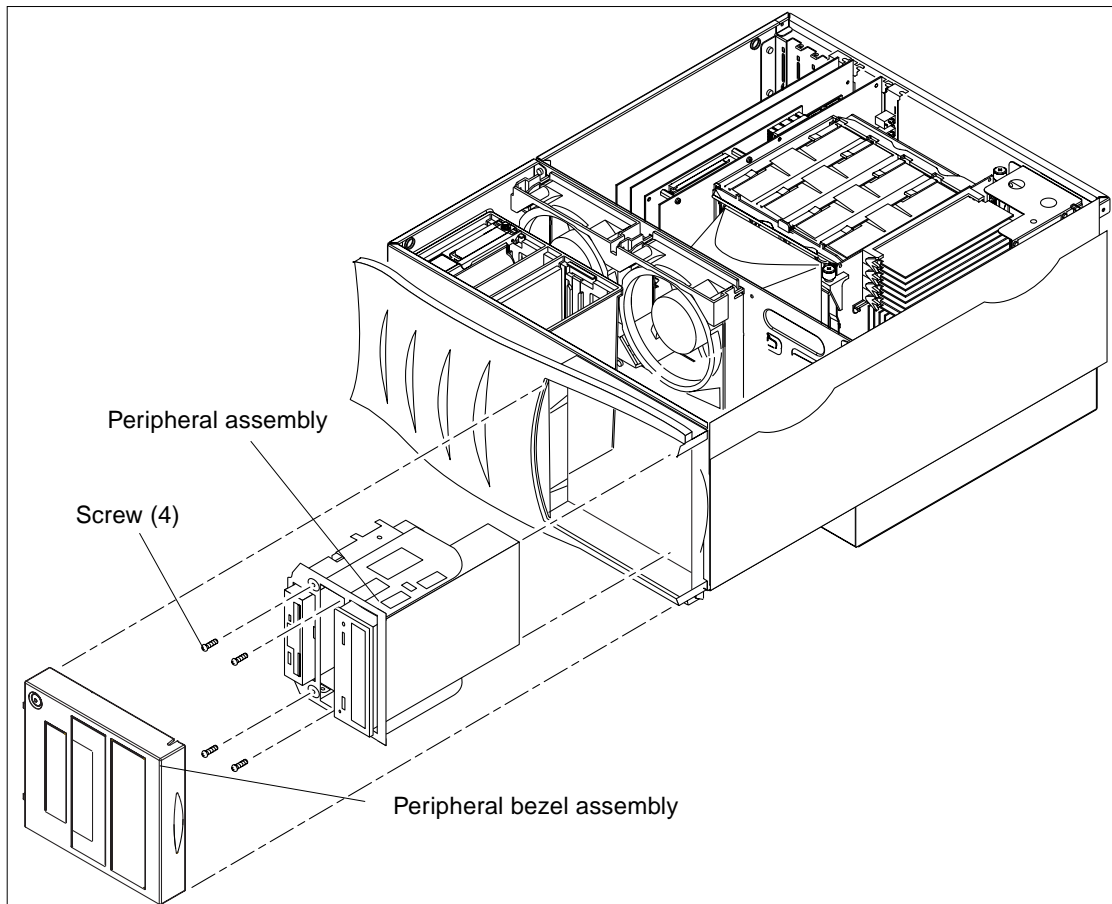
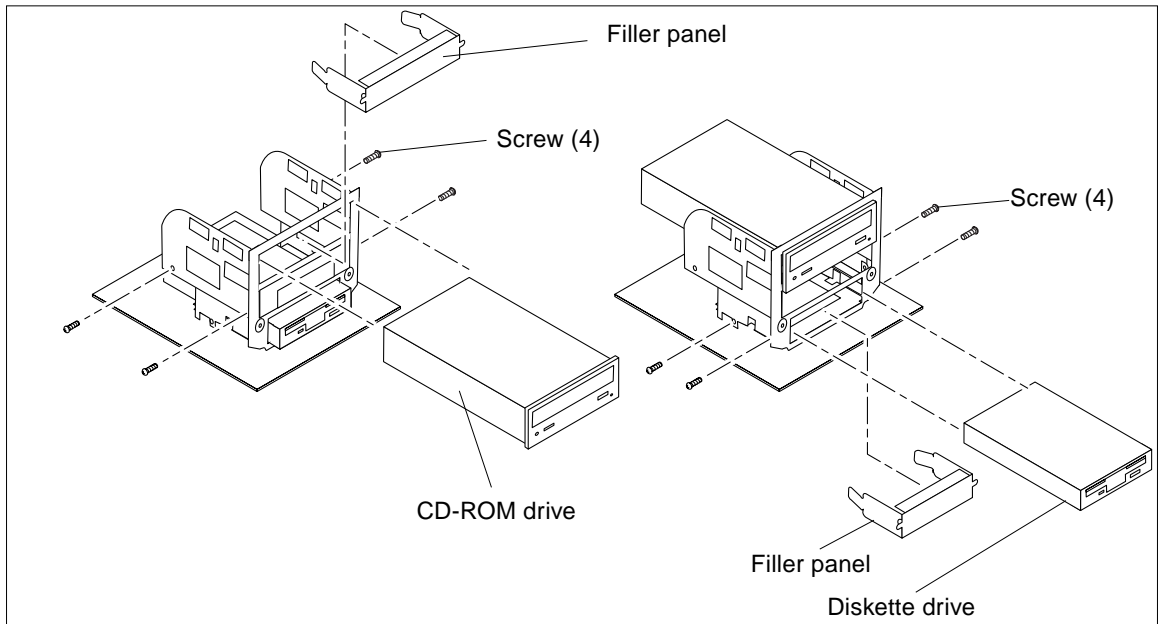

FIGURE 8-2 Removing and Replacing the Peripheral Assembly
FIGURE 8-3 Removing and Replacing the CD-ROM Drive/Diskette Drive
4. **Remove the peripheral assembly as follows (FIGURE 8-2 and FIGURE 8-3):**
1. Position the peripheral assembly on a flat surface so that the CD-ROM drive or tape drive is flat (FIGURE 8-3).
1. **Remove the filler panel, if necessary** (FIGURE 8-3 on page 8-5).
1. **Position the peripheral assembly on a flat surface so that the diskette drive is flat** (FIGURE 8-3).
1. Remove the filler panel, if necessary (FIGURE 8-3 on page 8-5).
1. Replace the peripheral assembly as follows (FIGURE 8-2 on page 8-4):